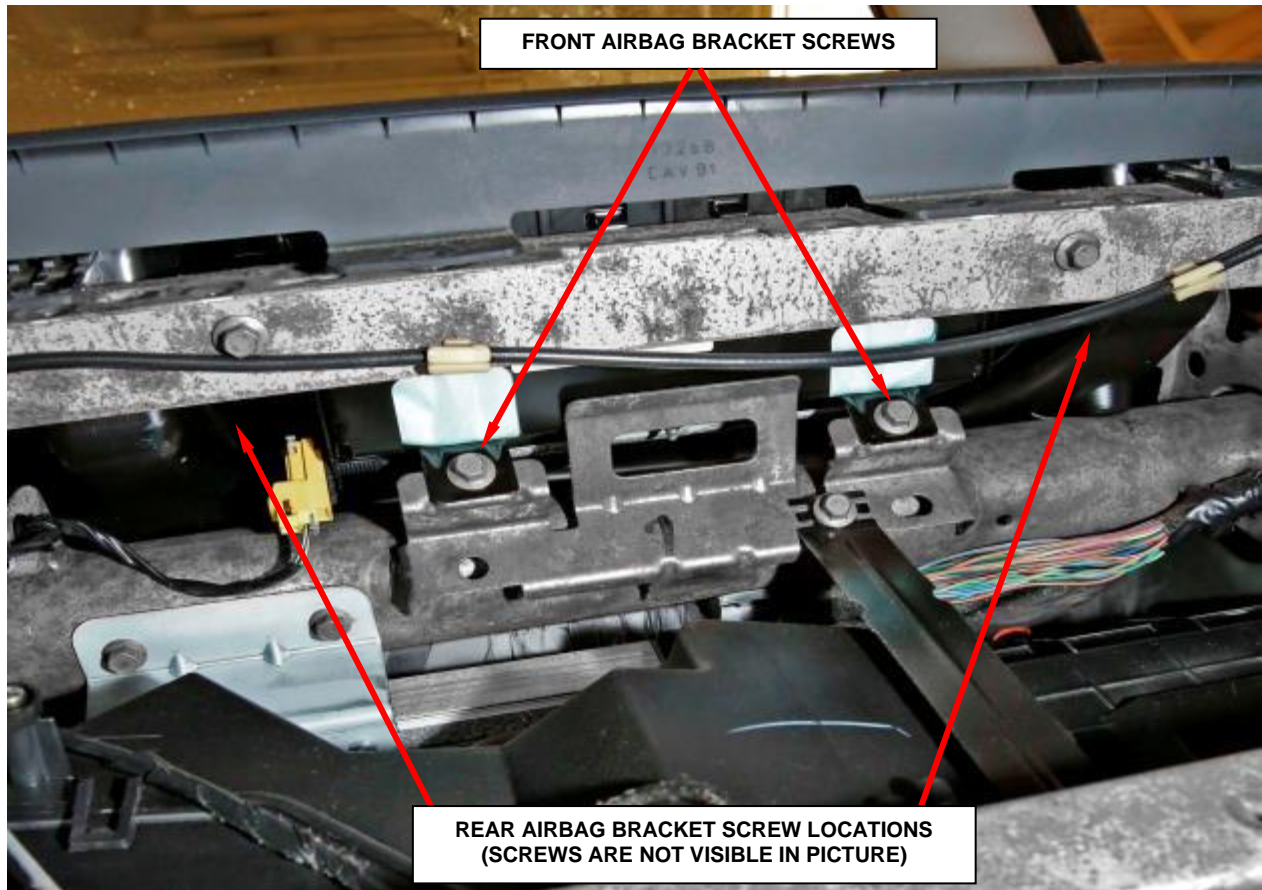

Figure 15 – Passenger Airbag Bracket Screws
13. Reach through and above the glove box opening to access and remove the two screws that secure the passenger airbag rear brackets to the upper glove box opening reinforcement (Figure 15).
14. Reach through and above the glove box opening to access and remove the two screws that secure the passenger airbag front brackets to the instrument panel structural support (Figure 15).
25. Reach through and above the glove box opening to install the two screws that secure the passenger airbag front brackets to the instrument panel structural support. Tighten the screws to 55 in. lbs. (6 N·m) (Figure 15).
26. Reach through and above the glove box opening to install the two screws that secure the passenger airbag rear brackets to the upper glove box opening reinforcement. Tighten the screws to 55 in. lbs. (6 N·m) (Figure 15).